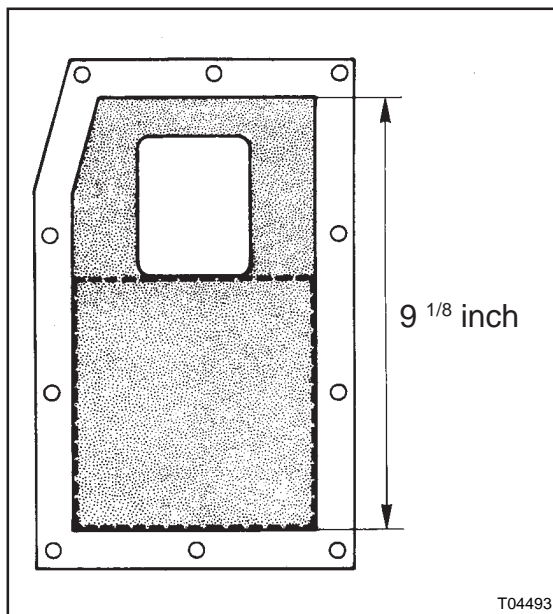

Figure 40: Intercooler closing rubber, height and cutting line
5. a With a steel ruler, measure the height of the flitch panel mounted rubber. It should be 232 mm (9 1/8 inch) high (see Figure 40). Remove the lower part of the rubber by cutting along the edges of the mounting frame with a utility-knife as indicated by dotted line.